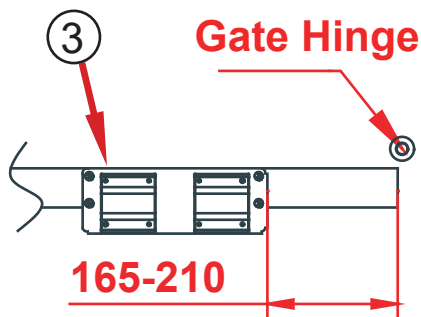

Fig 2
1. Installed the ③ fixing base on the bottom of 1st leaf door(closing to the upper hinge), make fixing base parallel to the gate side line besides of upper hinge, the distance from gate side should be 165-210mm as the Fig 2.